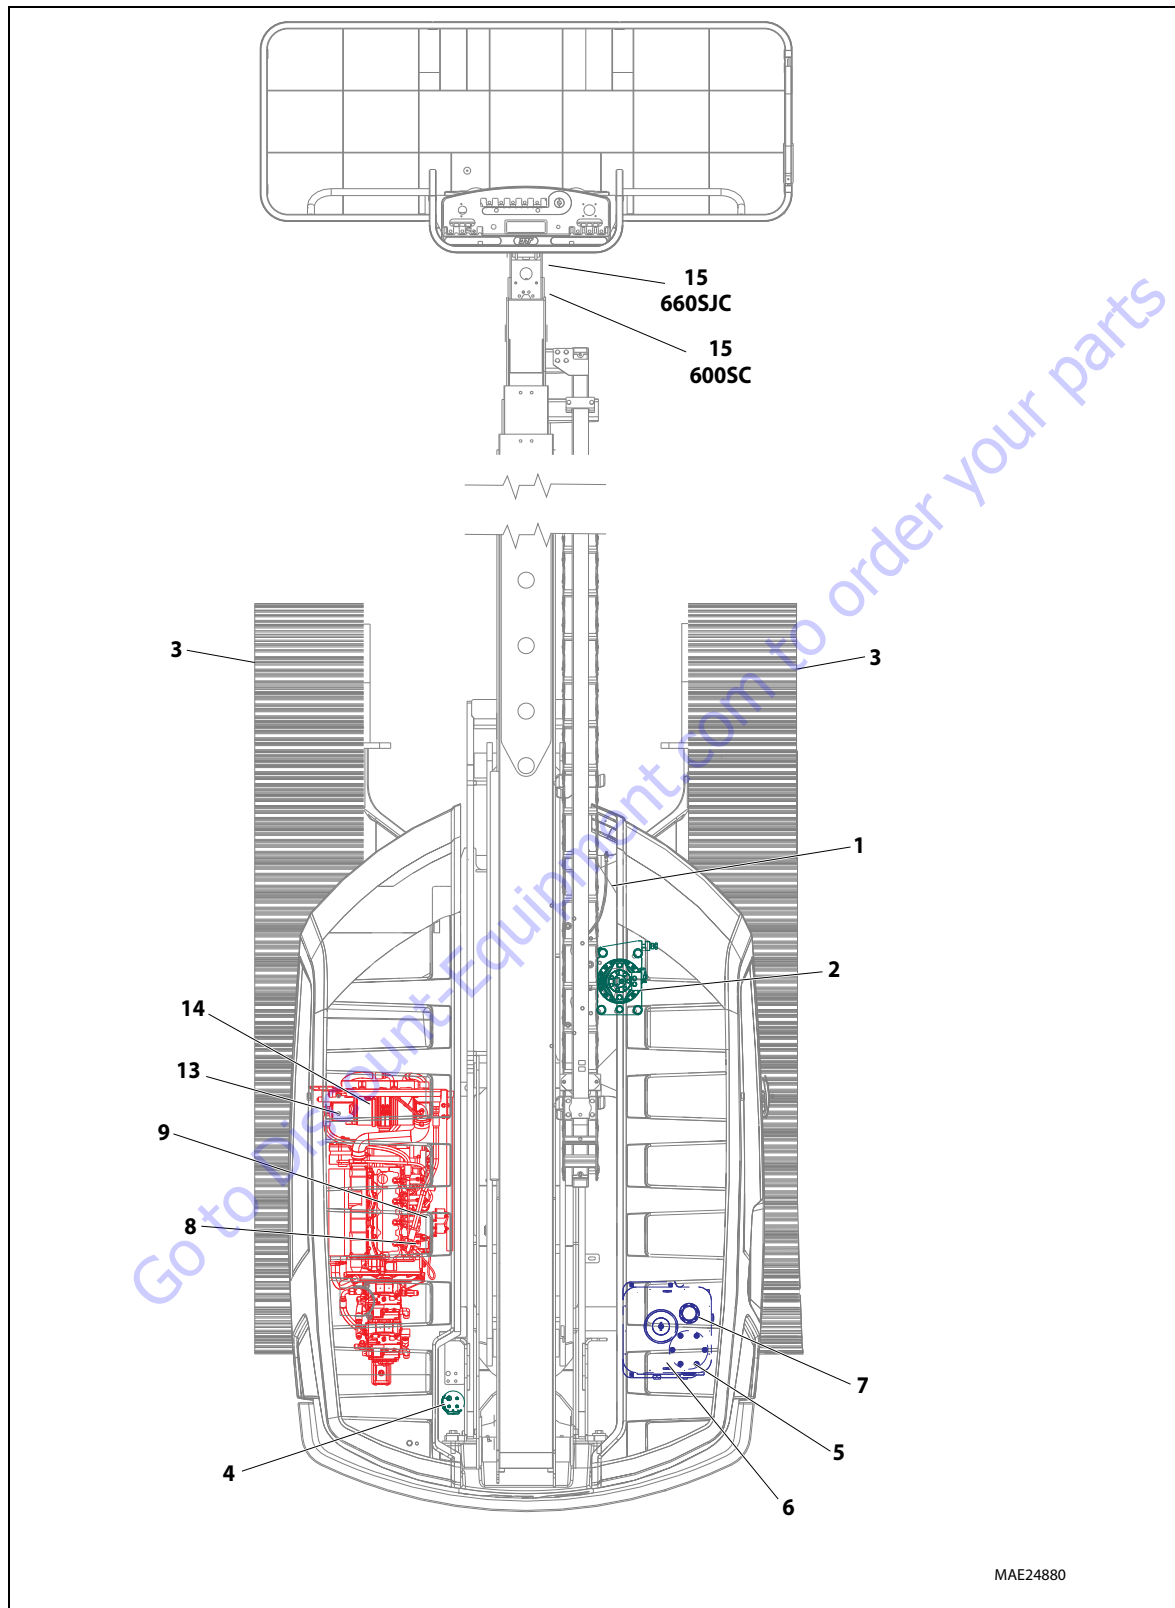
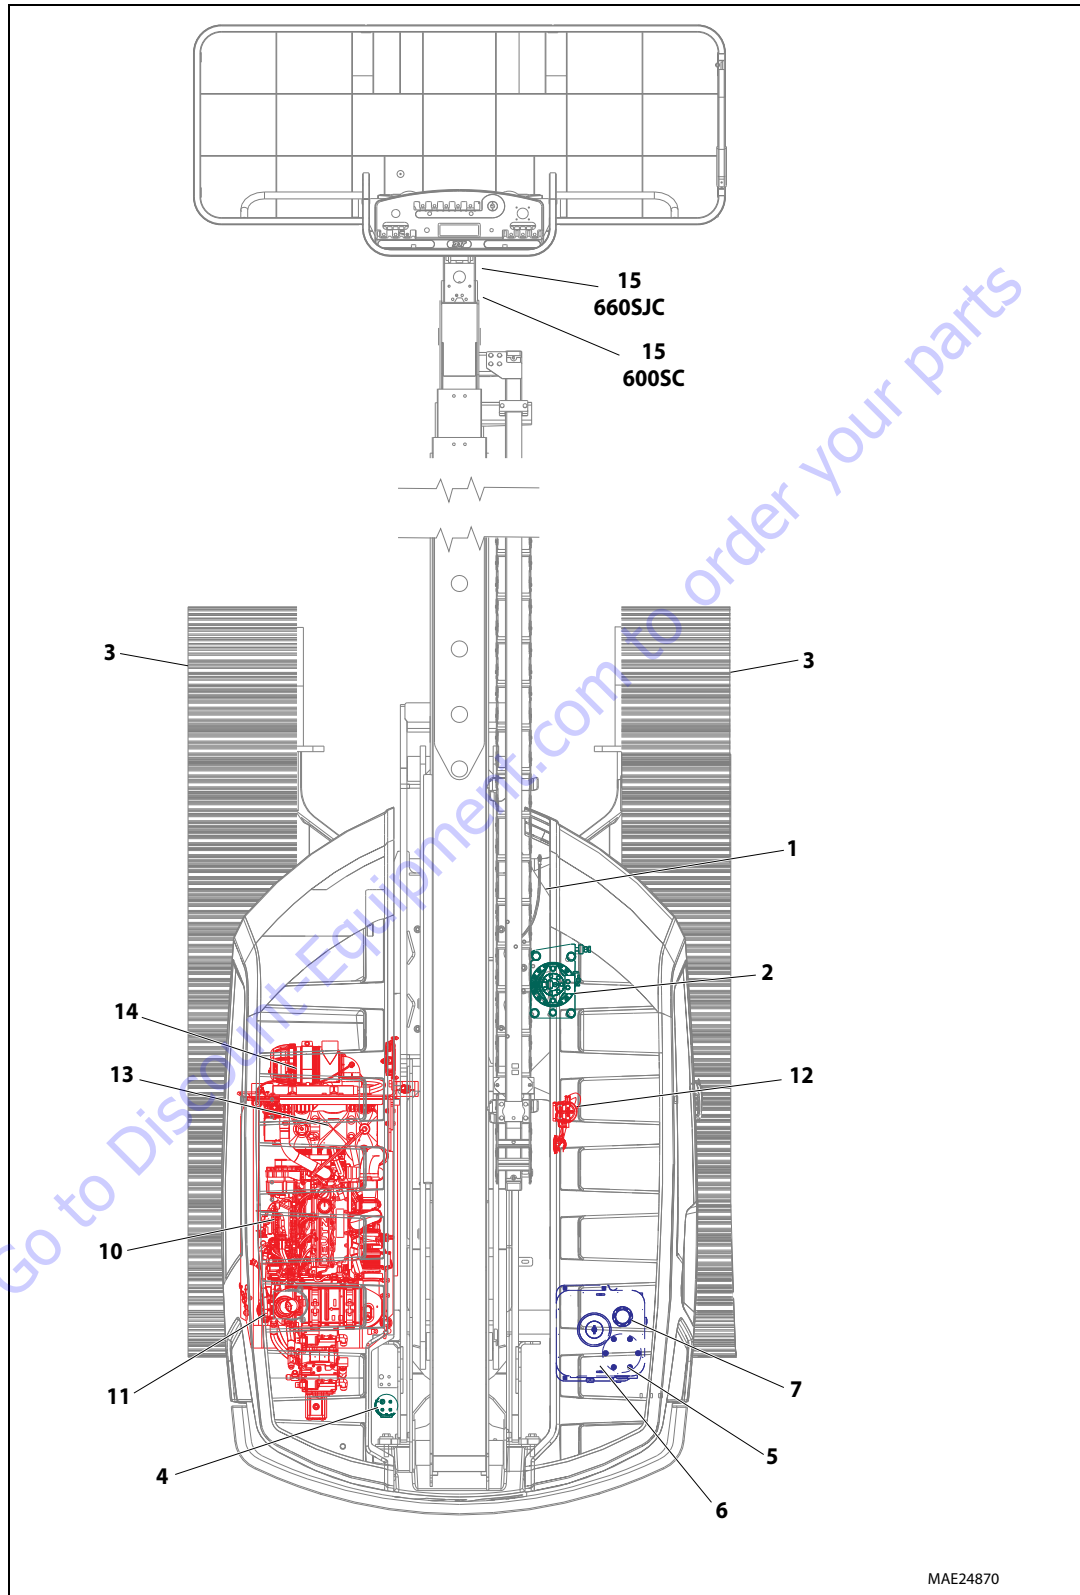

Figure 1-1. Maintenance and Lubrication Diagram - Deutz D2011L04
Figure 1-2. Maintenance and Lubrication Diagram - Deutz TD 2.9 and TD 2.9 L4 GUO III
**NOTE:** The following numbers correspond to those in Figure 1-1. and Figure 1-2.